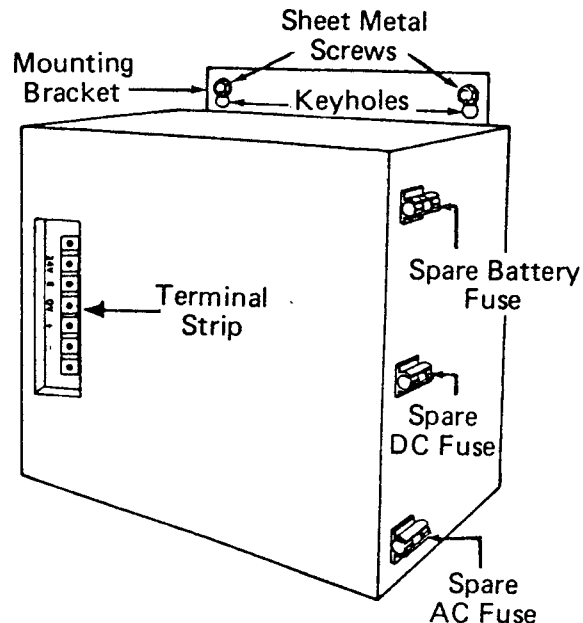

FIGURE 6—WALL MOUNTED EPSA
01.24 Place the EPSA against the mounting surface with the screws protruding through the holes (Figure 6).
marked holders (see Figure 6).